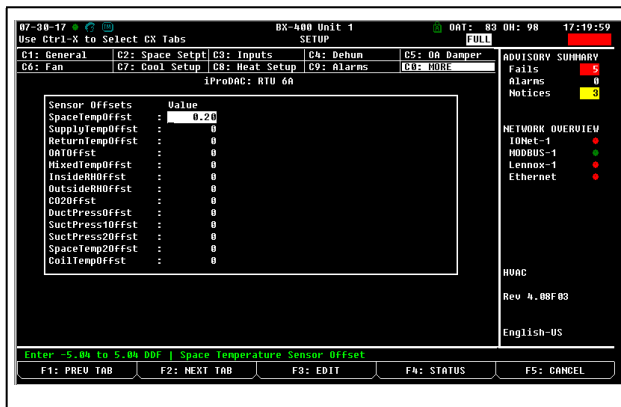

Figure 7-9 - Sensor Offset Properties in E2 - C0: MORE Tab
- Press **Ctrl + 0** and select **F Sensor Offsets** or press **F2** to access the **C0: MORE** tab and scroll through the tabs to access the **Sensor Offsets** (Figure 7-9).
- Enter the appropriate offset value (Figure 7-9).